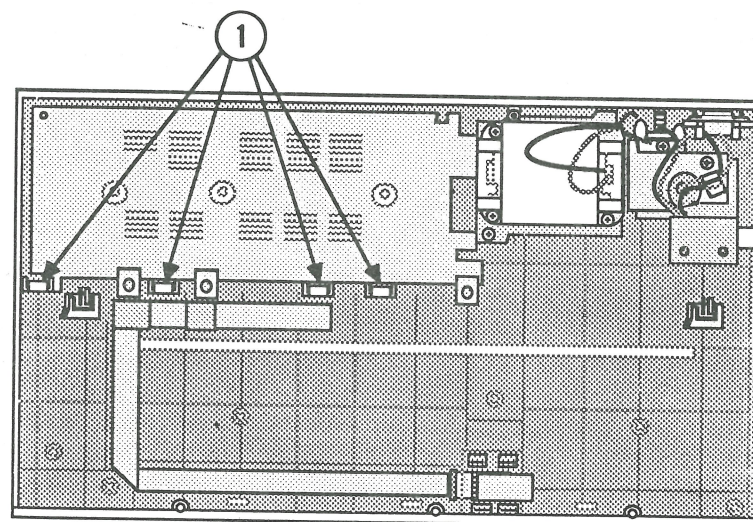

FIGURE 27
1. Put the front edge of the main board into the four plastic clips in the base of the printer (Figure 27, #1). Lower the rear edge of the board into place.